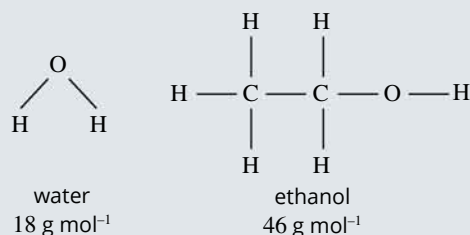

FIGURE 12.4.3
- 20** 200 g of water is placed in one beaker and 200 g of ethanol in another. Both are initially at the same temperature. The specific heat capacity of ethanol is 2.4 J g⁻¹ °C⁻¹ and that of water is 4.18 J g⁻¹ °C⁻¹. Each beaker is heated by the addition of 5 kJ of heat energy. The molecular structures of water and ethanol are shown in Figure 12.4.3.